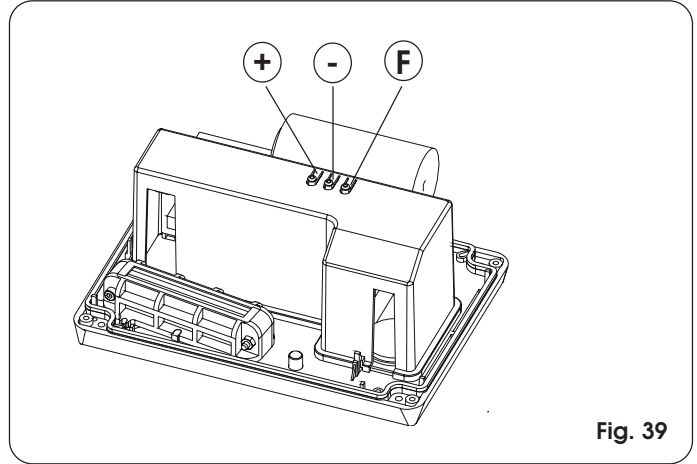

Fig. 39
**Attention: before attempting to power up the system, we advise you to re-position the equipment's cover, to avoid coming into contact with high voltage parts, and to use the push-buttons on the cover to activate the keys (fig. 39).**
Make all electrical connections to the board as in chapter 5, including earthing of the operator (Fig. 39).